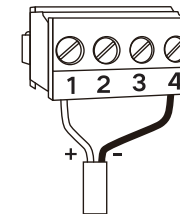

Figure 2
6. Connect the (+) wire to position #1 and the (-) wire to position #4 on the Euroblock connector. (see figure 2)